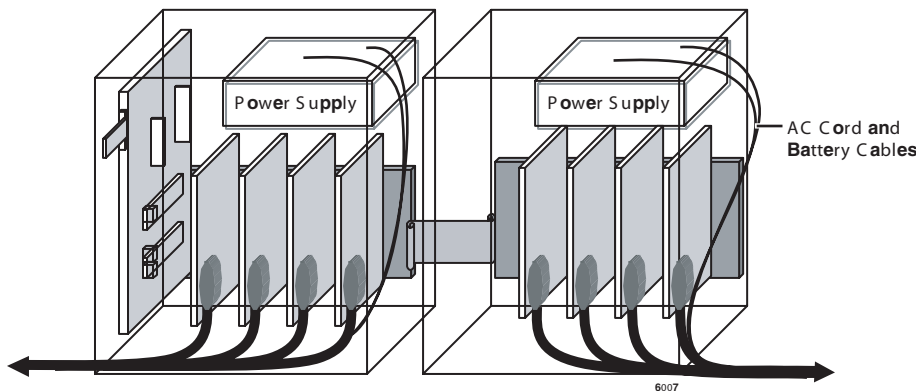

Figure 2-20 Opposite Direction Cable Routing
- ✦ **Opposite Direction Cable Routing** – Cabling from the Expansion Cabinet can run through the right and left sides (see Figure 2-20).